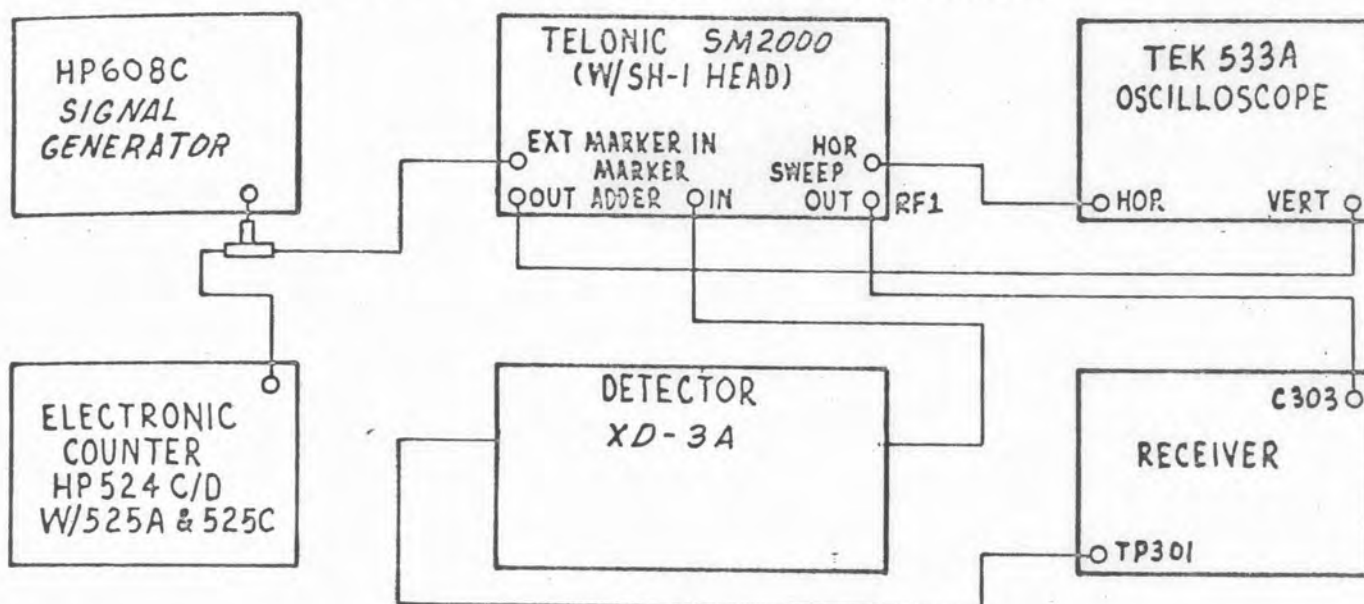

Figure 5-13
- a. Set up equipment as shown in figure 5-13.